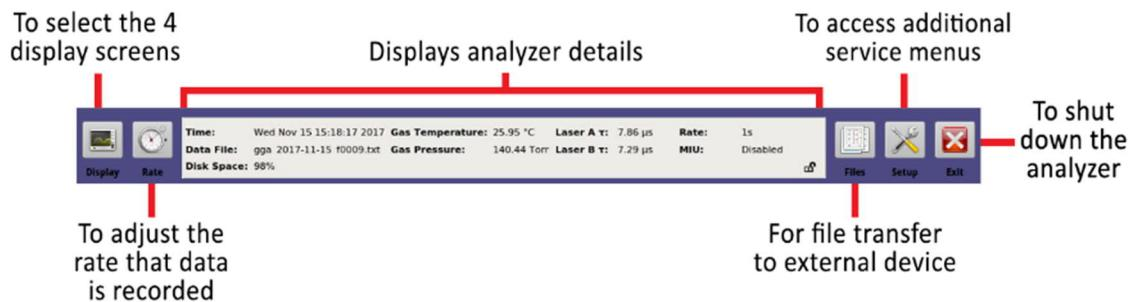
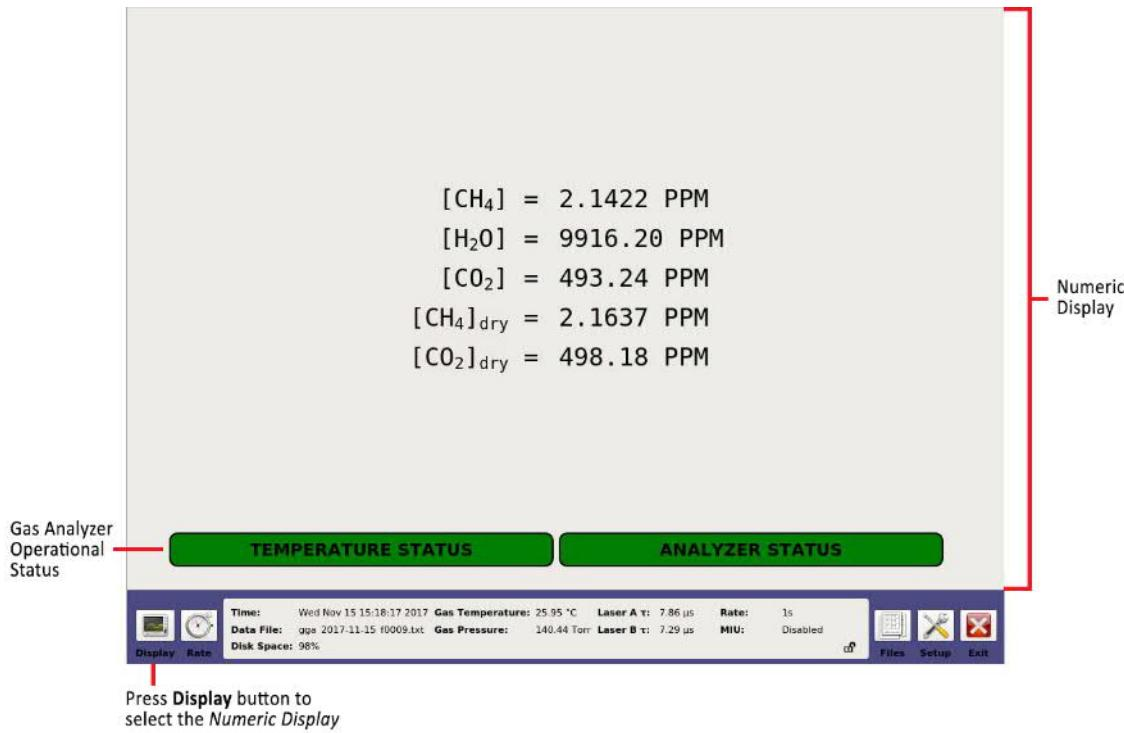

Figure 18: User Interface Control Bar
Figure 19: Numeric Display
- b. If you don't make a selection within 120-seconds, the analyzer automatically defaults to the *Main Panel Numeric* display. (Figure 19)
This panel contains the *User Interface Control Bar* (Figure 18) and *Numeric Display*. (Figure 19)
- *Numeric Display*– Default display. Displays the numeric readout of the last measurement. (Figure 19)
Click the Display button to change the display in the *Main Panel*. (Figure 18) Clicking the Display button multiple times lets you cycle through the four main panel displays. When the analyzer is launched, it defaults to the *Numeric Display*. The four displays within the display function are:
Figure 19 shows an example of the *Numeric Display* screen for the GLA132-GGA. It displays the numeric readout of the last measurements of gas at a specific concentration. Concentrations vary depending on the type of analyzer.
Click the Display button on the *User Interface Control Bar* to switch to *Spectrum Display*. (Figure 18)